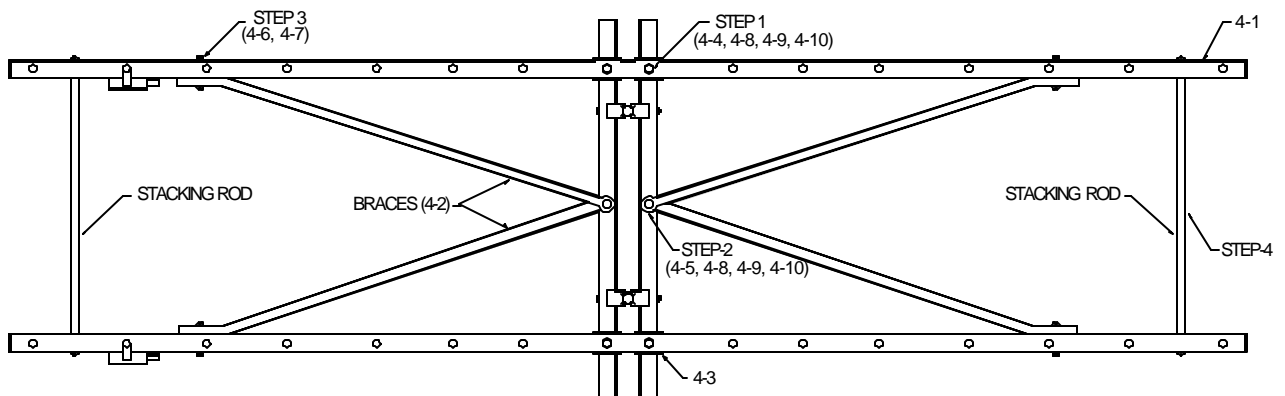

Figure 2
- a. Four antennas mount to the quad frame through mounting holes shown in Figure 2. All four antenna booms should be mounted to the outside of the frame.
- b. Braces are attached as shown in Figure 2. Braces from the upper two bays come down to the center of the frame and braces from the lower boom come up to the center.
Step 4: Install the vertical spacing rods through tubing as in Figure 2. These rods should extend app. 1/2" above the upper boom and 1/2" below the lower boom. Check to make sure that the vertical boom spacing is the same at the front, center and end of the array.